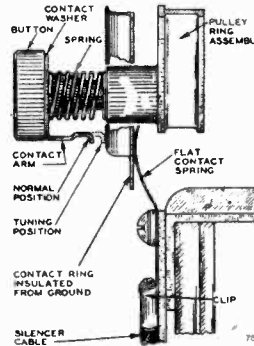

Fig. 1—Silencer Assembly
When a telephone dial button is depressed, a circuit is established between the ungrounded end of the volume control and the chassis ground. Referring to Fig. 1 it will be noted that contact is made between the line from the volume control, contact ring, contact washer arm (when button is depressed), spring and pulley ring stud. Since the pulley ring is at ground potential, this grounds the audio voltage and no signal will be heard until the button is released to break the contact.
**If Noise Occurs on All Buttons**—This is probably due to a poor contact between the flat contact spring and the contact ring—See Fig. 1. Clean the flat contact spring and contact ring to insure a good electrical connection. Ordinary cleaning fluid may be used and will be effective in most cases in cleaning the surface without affecting the plating. If the contact is still not satisfactory, a piece of fine emery cloth may be used.
**If Noise Occurs on One Button Only**—This is due to a poor contact between the pulley ring stud, spring, contact washer, and contact ring—See Fig. 1. Clean all of these items of the particular button, in the same manner as mentioned previously, so as to provide a good electrical connection.